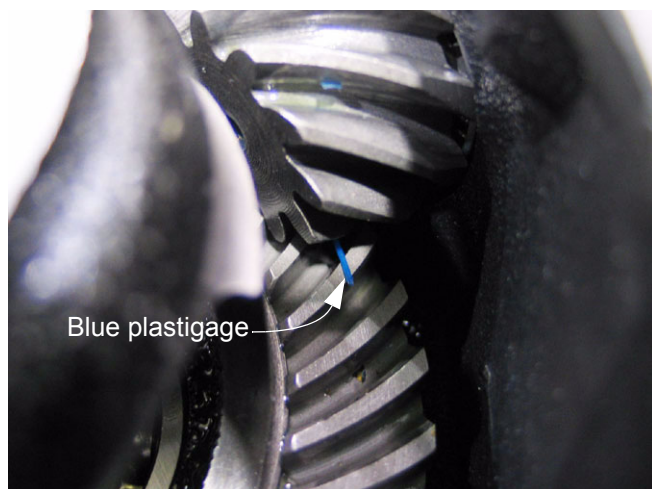

Figure 9.52
- 9.52. Use blue plastigage having a range of .004"-.009" (.102-.229 mm) to measure the clearance between the ring gear and the pinion gear. See Figure 9.52.